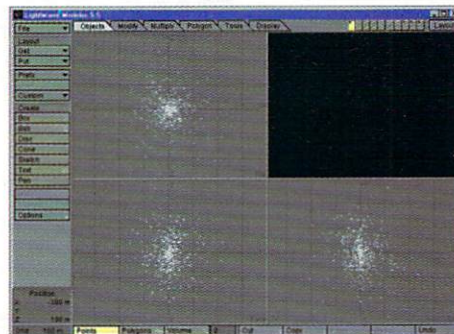

Figure 7
8. Open the Objects Custom menu and drag down to the Primitives macro. Select Random Points and click OK. Enter 500 as the number of points, select Sphere and Falloff, then click OK. To make the particles fit in our scene we need to scale [shift-h] them up a bit. Press [shift-n] to bring up the numeric requestor and enter 9,999 for the scaling factor. Size the view to show the whole object [a] and place the cursor at the origin in the left view and rotate the object counterclockwise [e]. The distribution should be aligned vertically and look something like Figure 7. Since this is a random distribution it will not look exactly like Figure 7, but close.